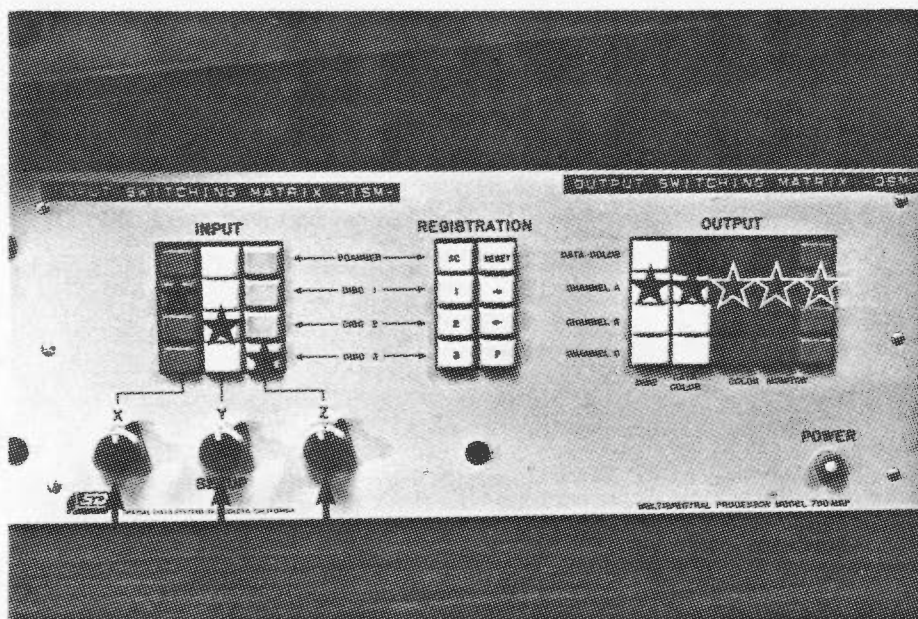
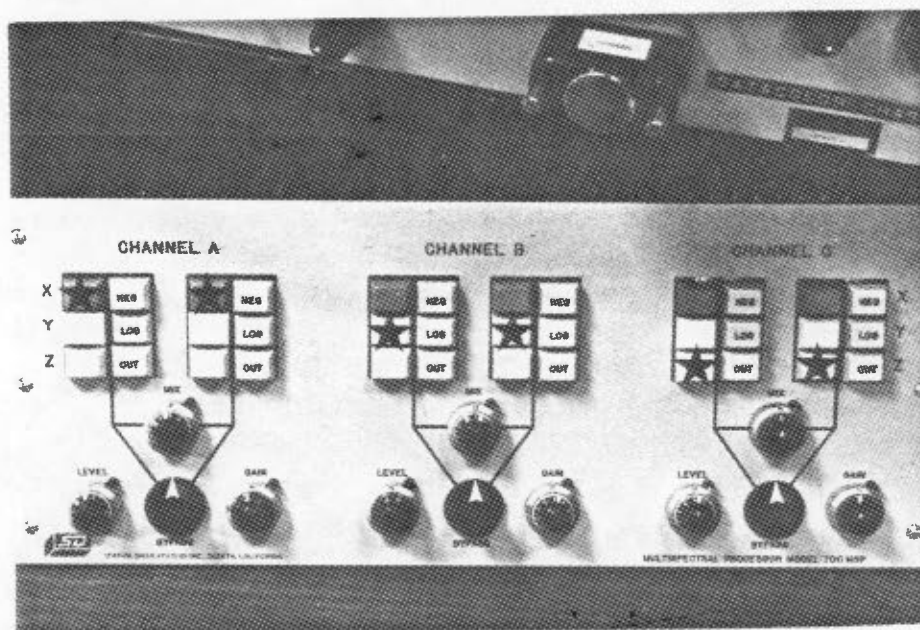

FIGURE 10.1. MSP - Left Chassis - Colour Composite Set-Up
FIGURE 10.4. MSP-Right Chassis-Button Configuration to adjust brightness (level) and Contrast (Gain) of images from X, y and Z.
2. To produce a colour infrared (CIR)\* image, set the Video Switcher to read M1 on D1, M2 on D2, and M4 on D3 (Sections 3.2 and 3.3). This is required when bands 4, 5, 6, and 7 are stored on disc channels M1, M2, M3, and M4 respectively. The controls on the Multispectral Processor chassis should be arranged as follows. All buttons to be pushed are indicated by a star ★ in Figures 10.1 and 10.2.
CHANNEL A and set the **Mix** dial to read entirely from the right column of CHANNEL A. On the OSM (left chassis) push down the **RED**, **GREEN**, **BLUE** and **DATACOLOR** buttons on the CHANNEL A row thus creating a black and white image on the colour monitor (see Figure 10.1). Returning to the right-hand chassis, adjust the **LEVEL** and **GAIN** controls on CHANNEL A to bring the brightness and contrast of the image to what is required (Figure 10.4).